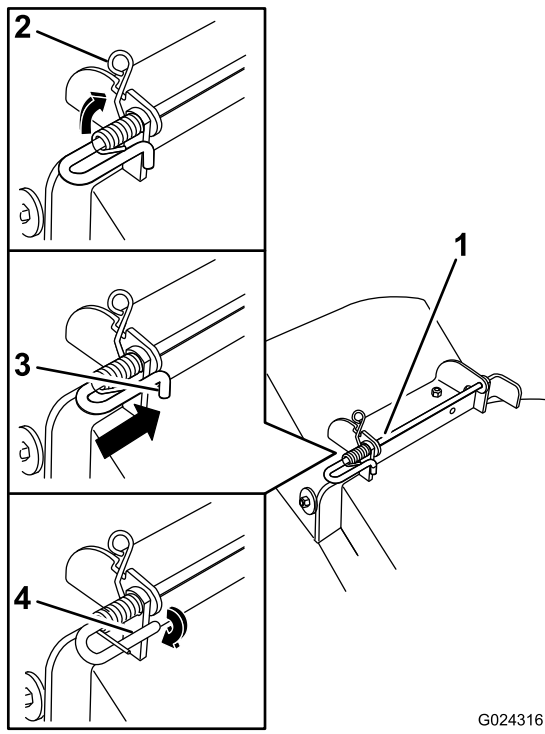

Figure 77
5. Lift the loop end of the spring and place it into the notch on the deflector bracket (Figure 77).
6. Secure the rod and spring assembly by twisting it so the short end of the rod can be placed behind the front bracket welded to the deck (Figure 77).